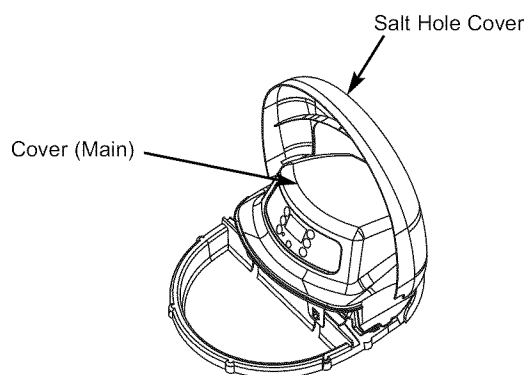

FIG. 8
4. Remove the main cover. See Fig. 8.